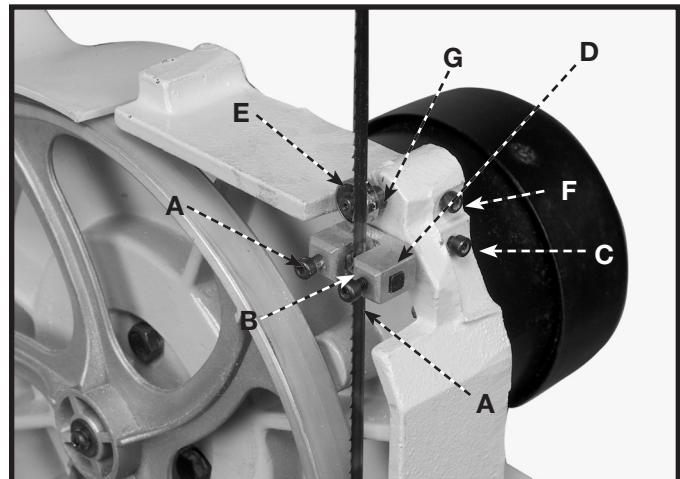
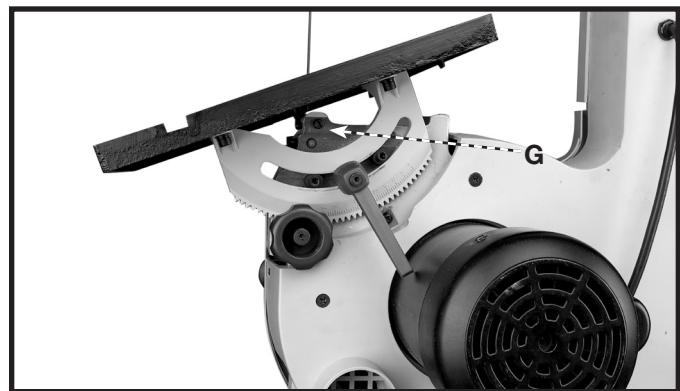

Fig. 29
Fig. 30
1. Loosen two screws (A) Fig. 29, and move guides (B) as close as possible to the sides of the blade. Be careful not to pinch the blade. Tighten the two screws (A). **NOTE:** In Fig. 29, the table has been removed for clarity.
2. The front edge of the blade guides (B) Fig. 29 should be adjusted so they are just behind the "gullets" of the blade teeth. Loosen screw (C), and move the assembly (D) in or out as necessary. Tighten screw (C).
3. The lower blade support thrust bearing (E) Fig. 29 prevents the saw blade from being pushed back too far during cutting. The support bearing should be adjusted approximately  $1/32"$  behind the blade. Loosen screw (F) Fig. 29, and move the bearing shaft (G) in or out as necessary. Tighten screw (F).
4. The lower blade support bearing (E) Fig. 29 should also be adjusted so that the blade overlaps the outside diameter of the ball bearing by approximately  $1/8"$ . The blade support bearing (E) is set on an eccentric shaft. To change the position of the bearing (E), loosen the screw (F) Fig. 29 and rotate the shaft (G) Fig. 30 until the blade properly overlaps the support bearing. Tighten screw (F) Fig. 29.